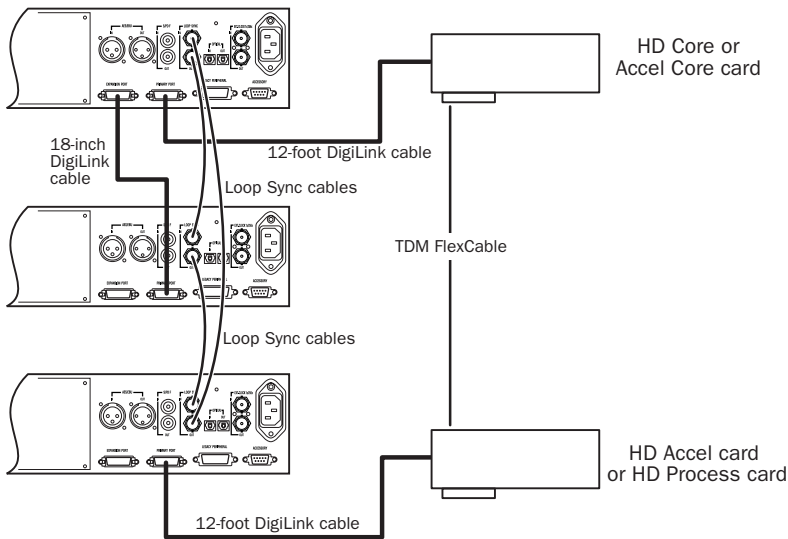

Figure 4. Three 96 I/Os, 48-channel
- 3 Connect additional Pro Tools|HD audio interfaces to subsequent Pro Tools|HD audio interfaces or cards. See Figure 4 on page 13.